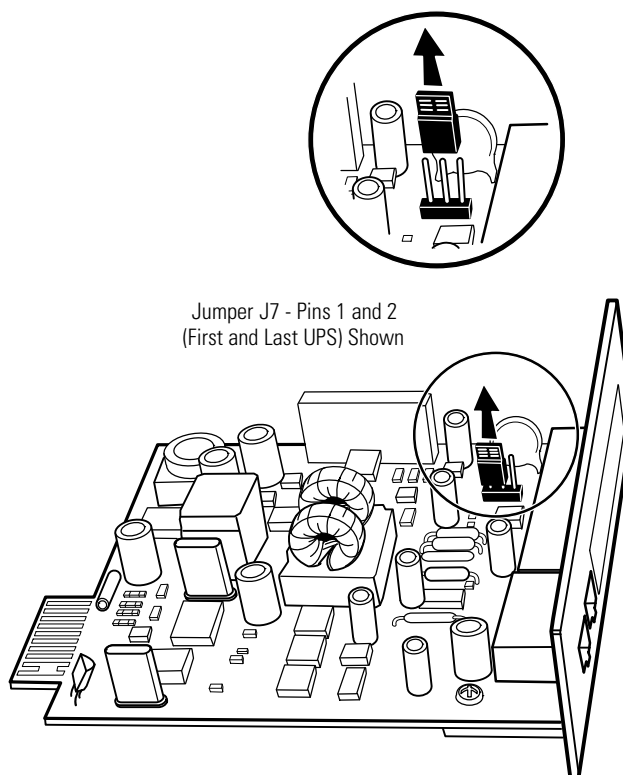

Figure 41. Removing the Jumper J7 (Side View)
- d. Remove and discard the Jumper J7 (see Figure 41).